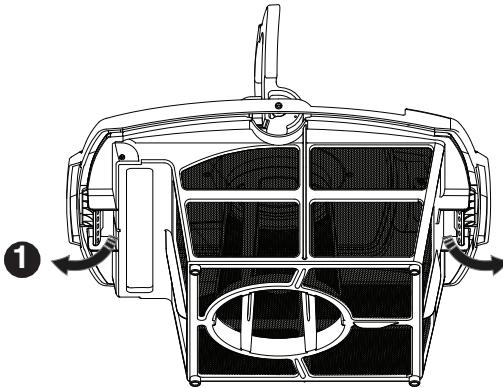

Figure 17. Remove Filter Canister Lid
4. Press two latches (1) and remove the filter canister lid (2) (See Figure 17).